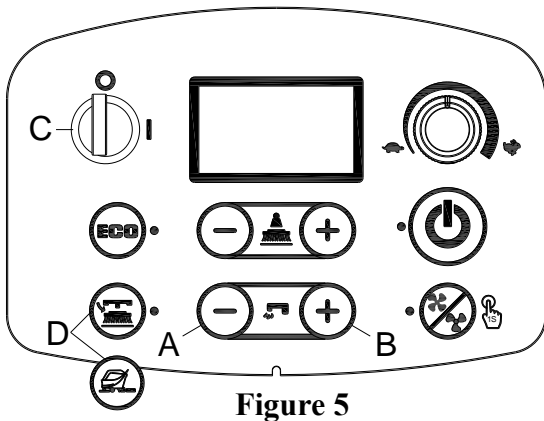
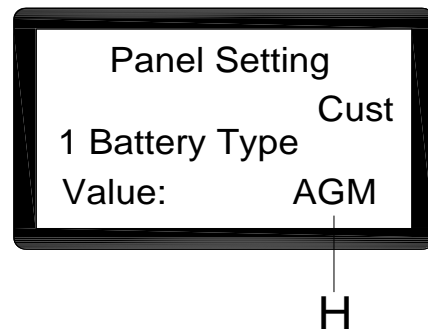

Figure 5
Figure 6
1. Press water flow button "+"(A, Figure. 5) and "-"(B, Figure. 5) at the same time.
2. Insert the ignition key (C, Figure. 5) and turn it to "I".
3. Several seconds later enter to the screen of selecting battery mode (Figure. 6)
4. Press water flow button "-"(A, Figure. 5) and "+"(B, Figure. 5) to select battery mode (H, Figure. 6)
5. Press the release button for dis version or the floor prep button for orbital version (D, Figure. 5), 3 seconds later show " Update OK" means setting succeeds, turn on to restart. (C, Figure. 5)